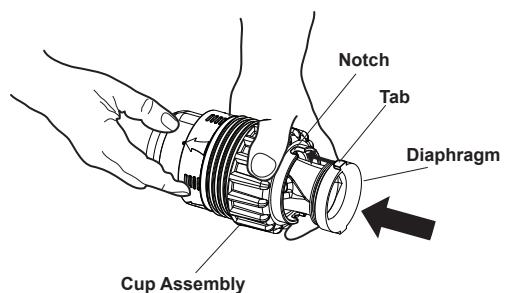

Figure 9
- Insert inner pipe and diaphragm into cup assembly. Align diaphragm tabs with notches and pull straight through (do not twist) until the edge of the diaphragm is visible (see Figures 9 and 10).